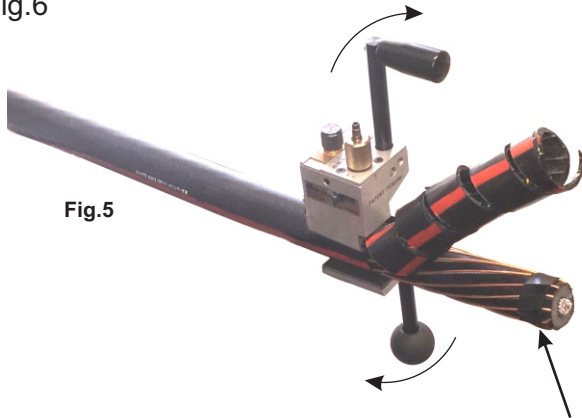

Fig.5
7. After approx. 2" of stripping, **tape down the neutral wires** or shielding at the end of the cable to control spring back. See Fig.5